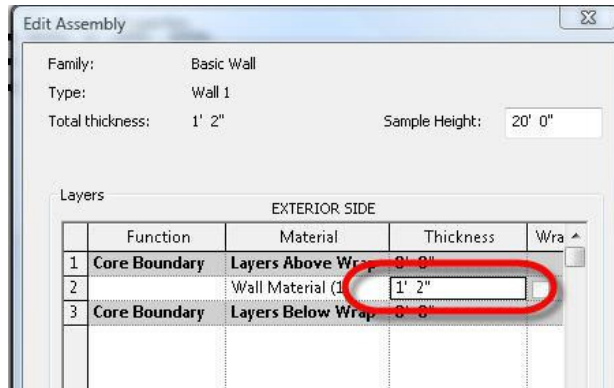

Figure 11. Changing the thickness of the example host Wall.
- In the Edit Assembly dialog, change the Thickness of the single material in the wall to 1'-2" as shown in Figure 11, then click OK until you exit all dialogs.